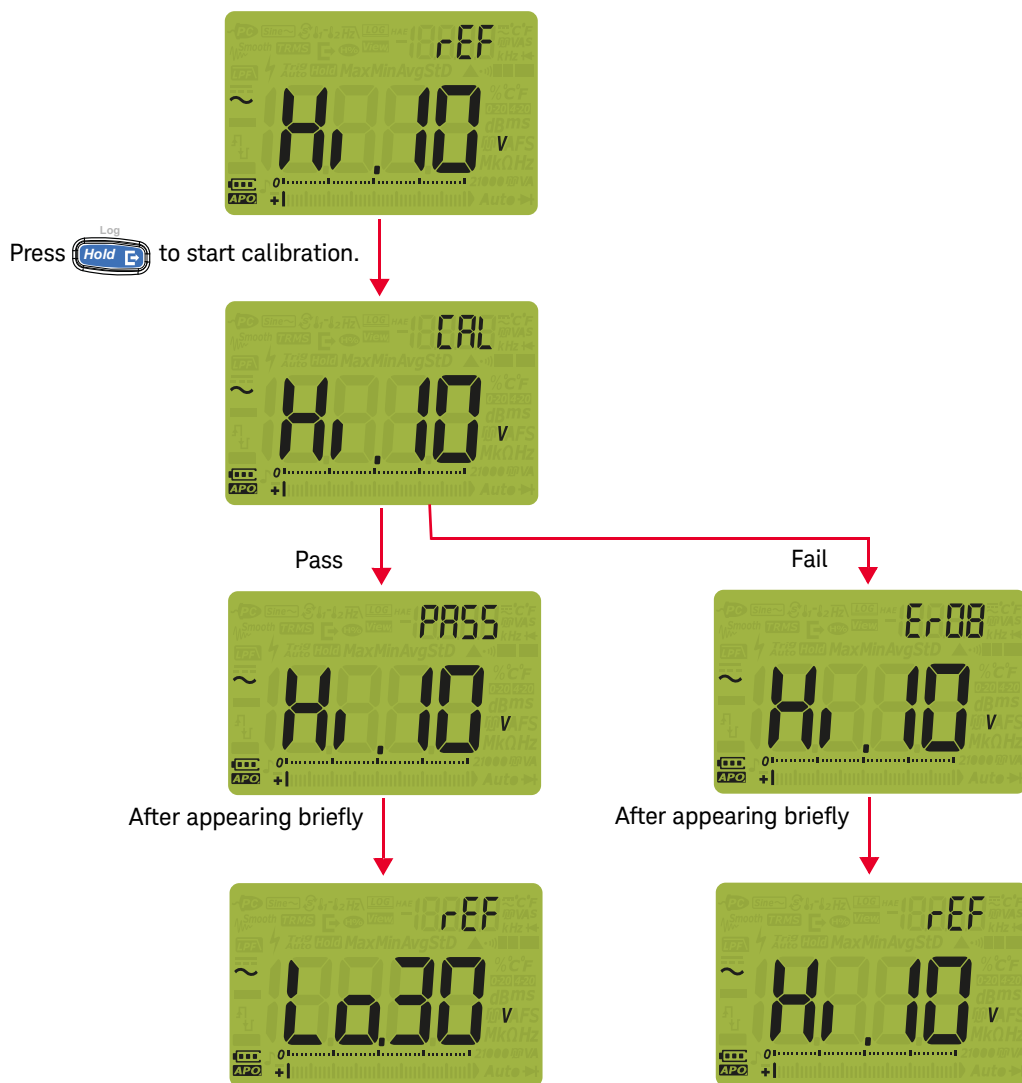

Figure 1-9 Vsense (non-contact voltage) calibration
- 9 When the calibration has completed, set the calibrator to the standby mode. See Figure 1-9 for the multimeter's display.